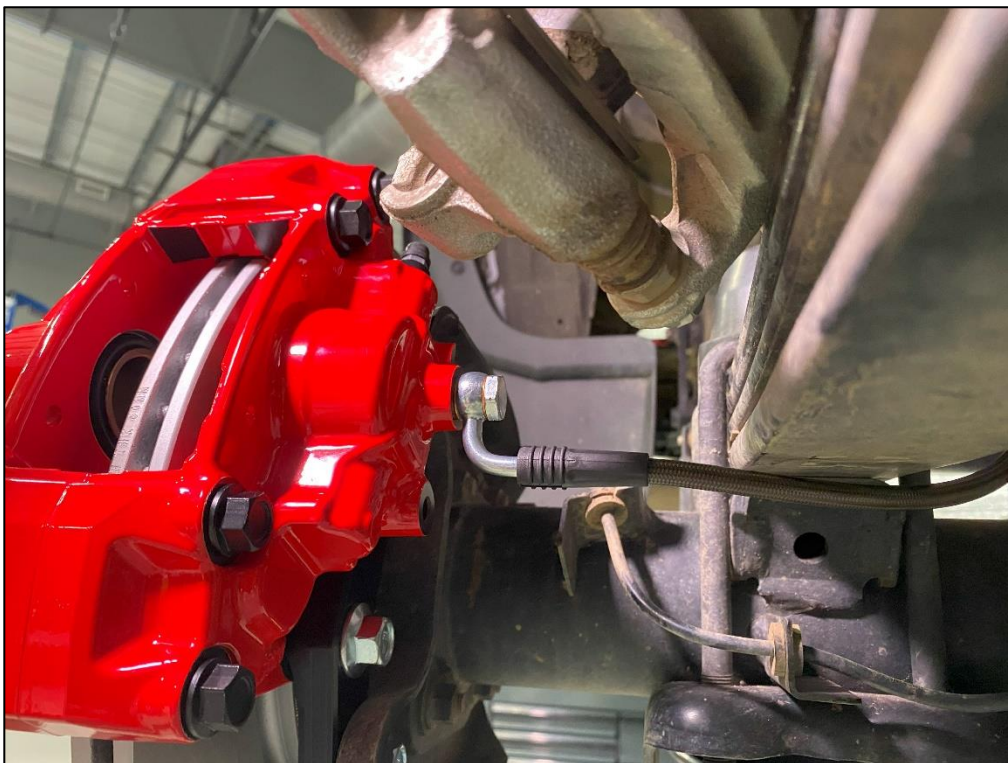

Figure 12
16. Install the Banjo Bolt and Brake line into the back of the Caliper. Start the Banjo Bolt by hand before tightening with a wrench. Torque to 12 ft-lbs. *Figure 12.*